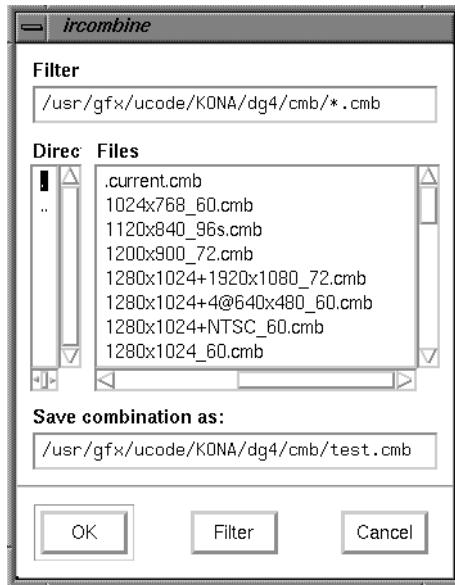

Figure D-11 Save a Combination
7. From the File pulldown menu in the Combiner main window, select "Save As." The *ircombine* window appears (see Figure D-11).